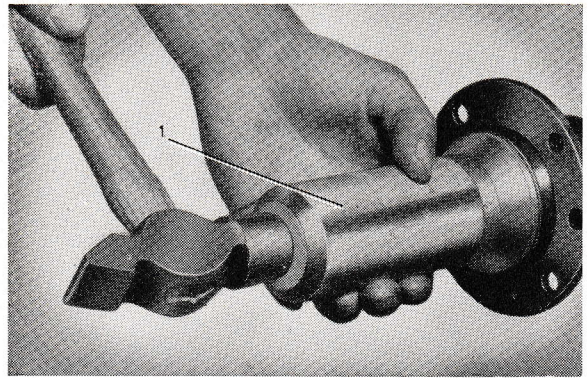

Fig. 20. Fitting the bearing ring.
3. Pack ball bearing grease into the rear axle bearings and insert axle shafts (11). Drive in the outer bearings with the sleeve SVO 1807 as shown in Fig. 20.